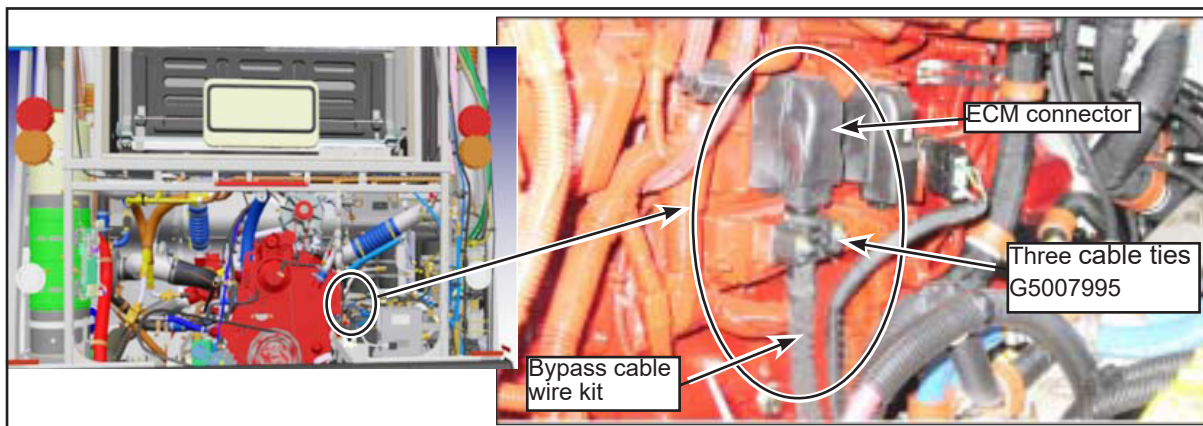

Figure 6 - Reconnect, Secure and Fasten the Bypass Cable Wire Kit
- 1.6. Reconnect the ECM connector, secure the strain relief, fasten the bypass cable wire kit with three cable ties (G5007995), and route the wire kit from the ECM connector (+MT-X95W) as shown below (see Figure 6).